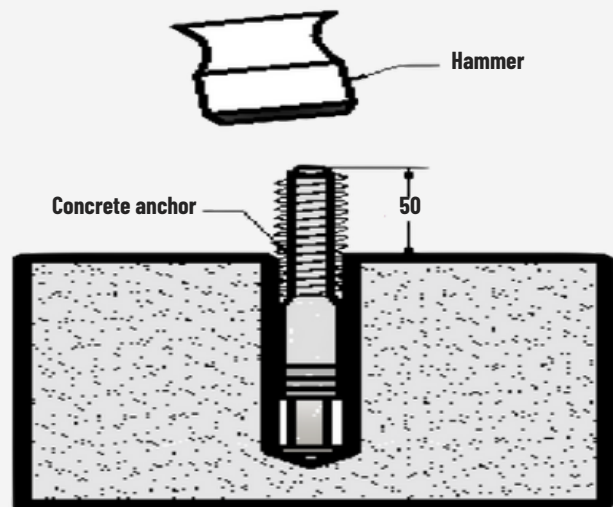

Figure 2 - Drilling xWave mounting anchor hole
6. To lock the anchor in place, (see Figure 2) take the hammer and strike the anchors top with several sharp and square blows. The anchor should recess into the concrete approximately 1/8 inch. Grab a hold of the anchors exposed threads and attempt to pull up on the anchor. The set anchor should be tightly secured and should not be withdrawn from the surface when pulled upon.